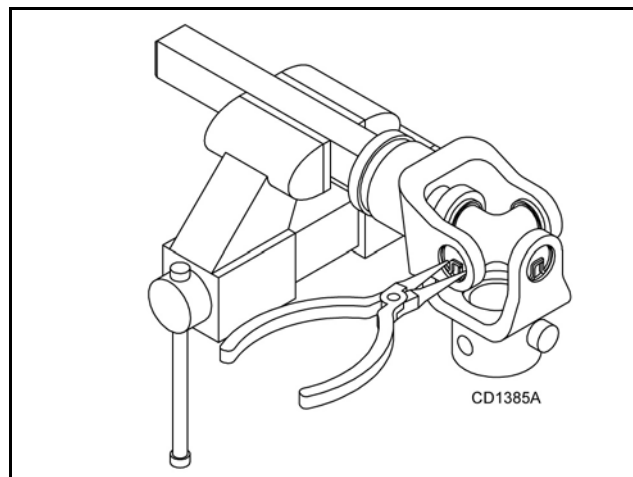

Figure 19
1. Remove external snap rings from yokes in four locations as shown in Figure 19.